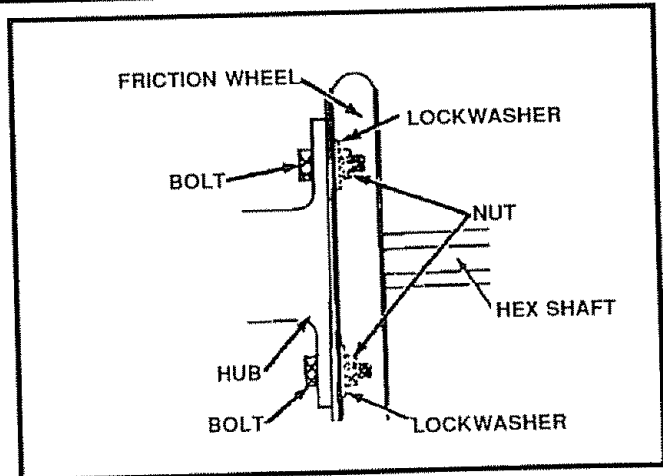

FIG. 32
- Remove the three (3) fasteners securing the friction wheel to hub (See Fig. 32) and set fasteners aside